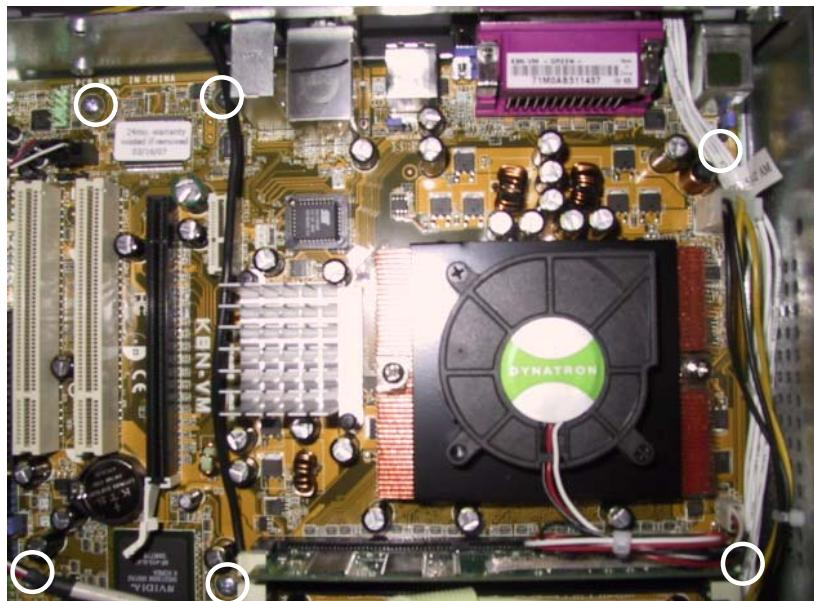

FIGURE 7 - SCREWS SECURING ASUS MOTHERBOARD
9. Remove the 6 screws securing the motherboard to the electronics box. See Figure 7.
1. Set the motherboard in place within the electronics box (with the connector side facing up), then secure the board with 6 screws. See Figure 7.